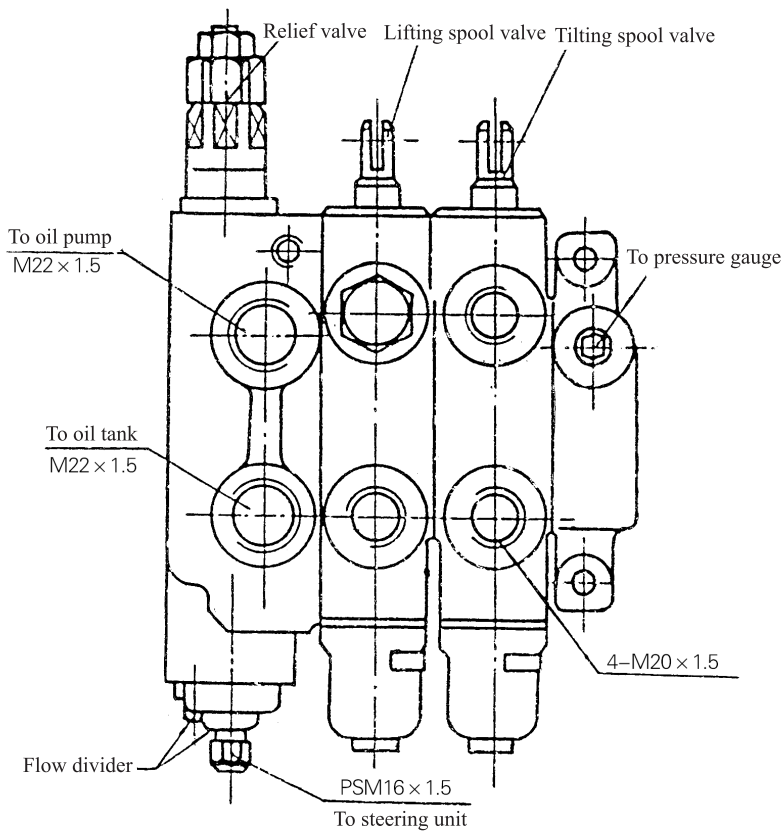

Fig.9-1 Control valve
9.3 Control Valve & Divider (See Fig.9-1)